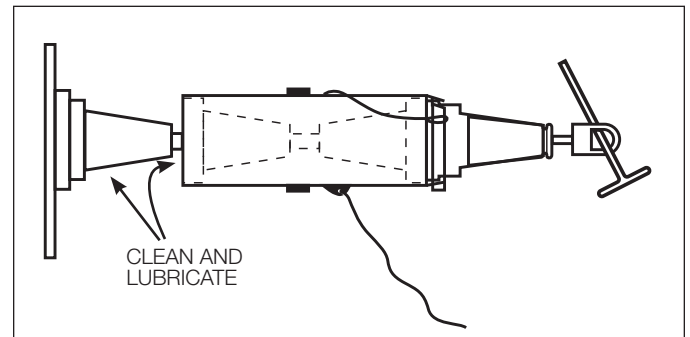

Figure 3.
- Insert the 5/16" torque tool into the 200 A tap and engage the rotating nut. (Refer to Figure 3.)